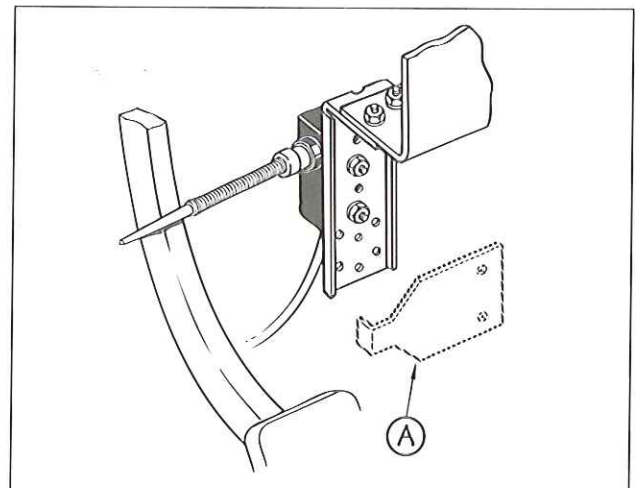

FIG. 24
2. Install the switch with the switch actuator arm in contact with the clutch pedal arm or other clutch member (see Fig. 24). The optional overtravel bracket (A) is not included in the clutch switch group.